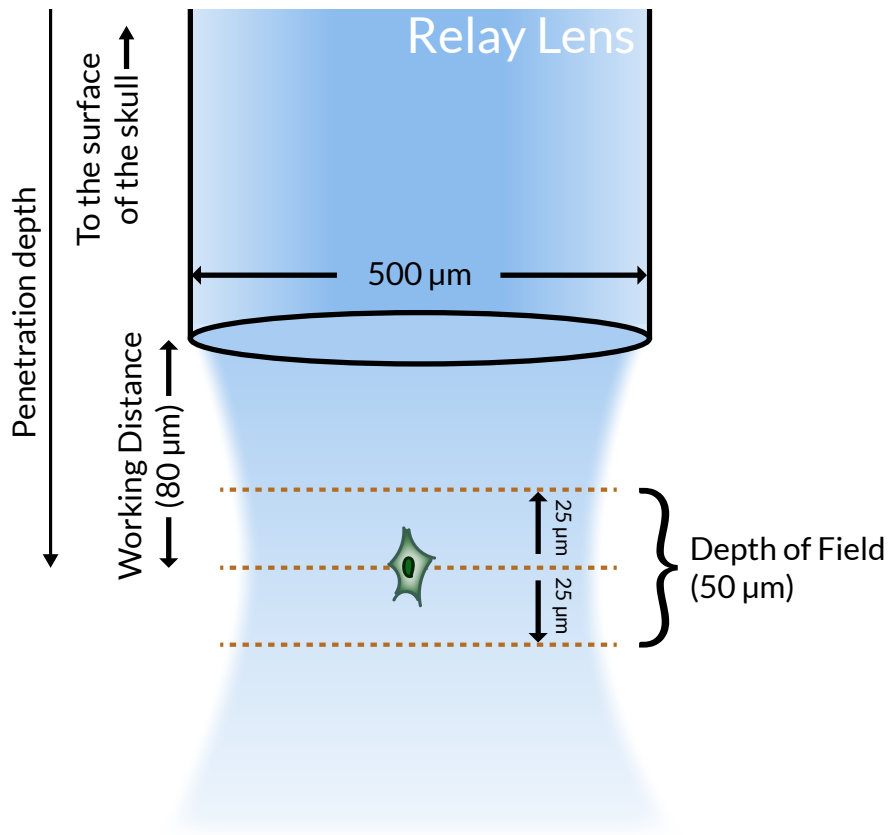
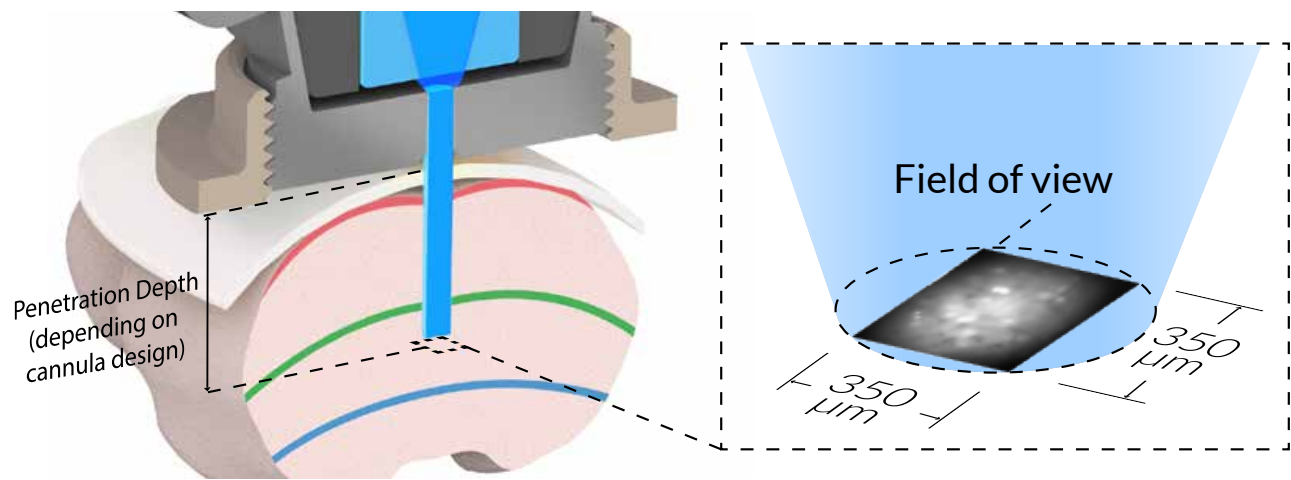

Figure 1.5: Depth Range of the Model-L Imaging Cannula
Figure 1.6: *Field of View Obtained by the Model-L Imaging Cannula*
**The working distance of our standard snap-in imaging cannulas model-L is 80  $\mu\text{m}$  and represents the distance from the extremity of the relay lens to the focal plane (devices with different working distances are offered on request). It means that the microscope does not image immediately underneath the lens, and this working distance must be considered when calculating the required depth. The depth of field or focus range is 50  $\mu\text{m}$  (Fig. 1.5). The field of view of the microscope model-L is 350  $\mu\text{m}$  X 350  $\mu\text{m}$  (Fig. 1.6).**